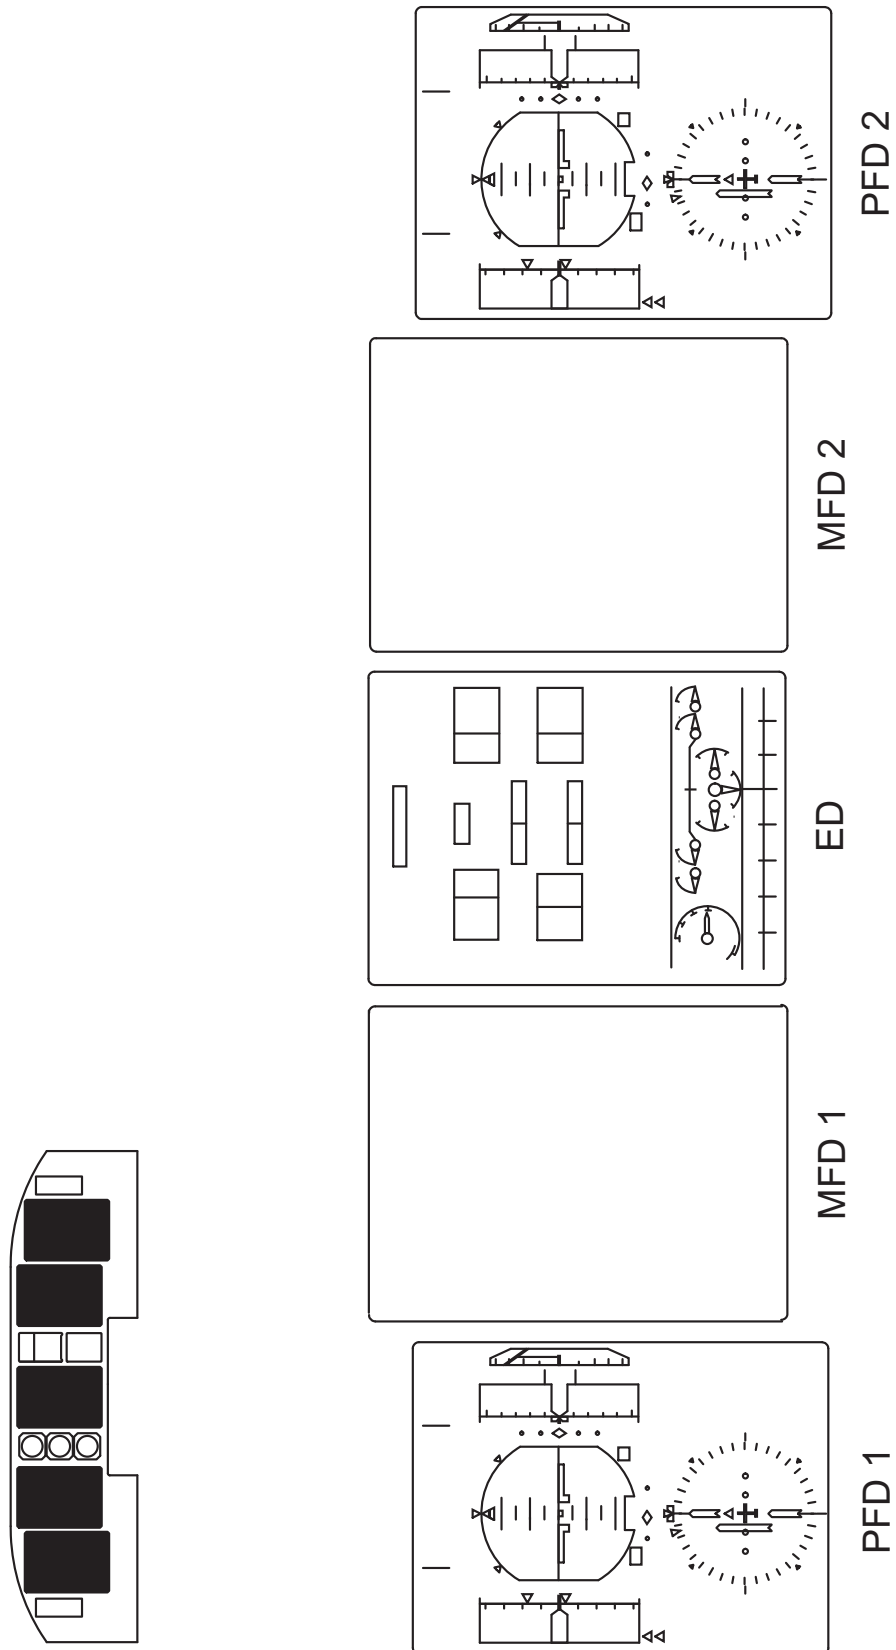

Figure 12.12-33 MFD1 and MFD2 Failed, and ELEC Pushbutton Being Held
The Engine and System Integrated Display (ESID) Mono Mode allows the selection of a System page when both Multi-Function Displays (MFD1, MFD2) fail or are selected on the ESCP Control Panel to show both Primary Flight Displays (PFD) (Figure 12.12-33). A permanent press on a dedicated System page key allows the appropriate System Page to be displayed in a composite system format on the Engine Display, replacing the ED format. The Engine Display (ED) format returns when the push button switch is released. If the ALL key is pressed, the ED remembers the previous selected system page, and steps through the next page when ALL key is pressed.